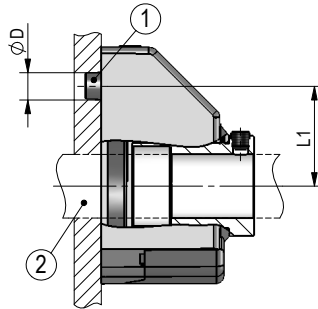

Fig. 1: Mounting dimensions
- ▶ Ensure a low shaft and angle offset between shaft and accommodation bore by applying appropriate manufacturing methods (see Fig. 1 + Tab. 2).
Preparing mounting (Fig. 1, Fig. 2, Fig. 3):
Mounting (Fig. 1, Fig. 2, Fig. 3):